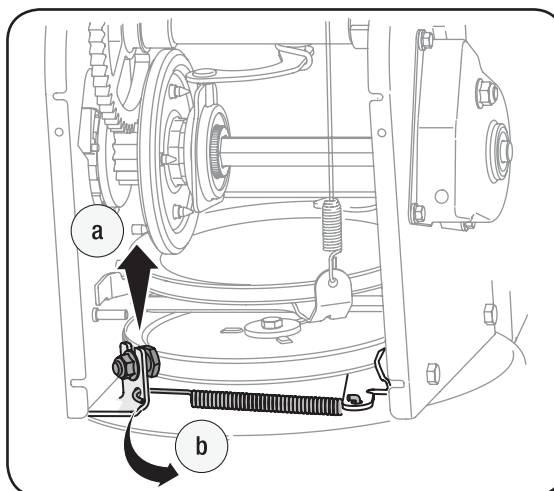

Figure 6-7
- a. Loosen and remove the shoulder screw which acts as a belt keeper. See Figure 6-7.